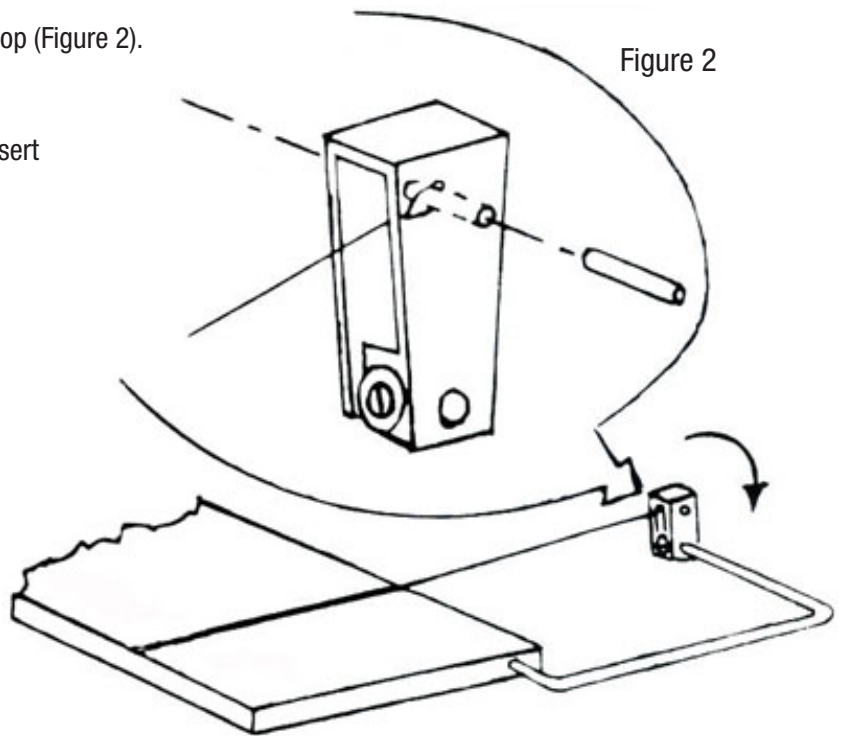

Figure 2
- 6 Take new wire and place wire loop into cutting slot. Slide bar back into base passing the bar through wire loop (Figure 2).
- 7 With handle in raised position as shown in Figure 2, place the other wire loop into the handle cavity and reinsert fastening pin passing it through loop.
- 8 Turn the handle in the direction shown in Figure 2 until it comes to rest. Grasp handle and tighten set screw into metal bar.